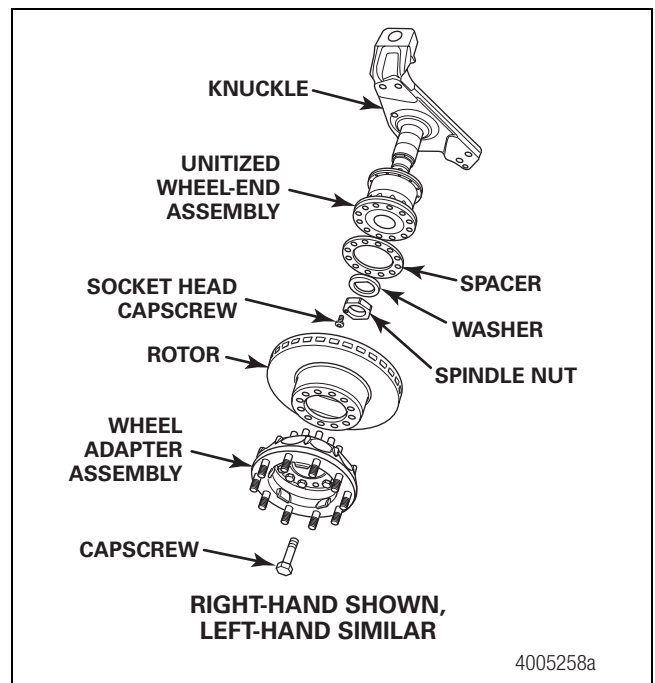

Figure 5.2
2. Remove the 12 capscrews from the wheel adapter. Figure 5.2.
1. Remove the socket head capscrew from the spindle nut. Figure 5.2.
2. Remove the spindle nut from the spindle. The left-hand spindle nut has a right-hand thread and the right-hand spindle nut has a left-hand thread. Figure 5.2.
3. Remove the washer and unitized wheel end from the spindle. Figure 5.2.